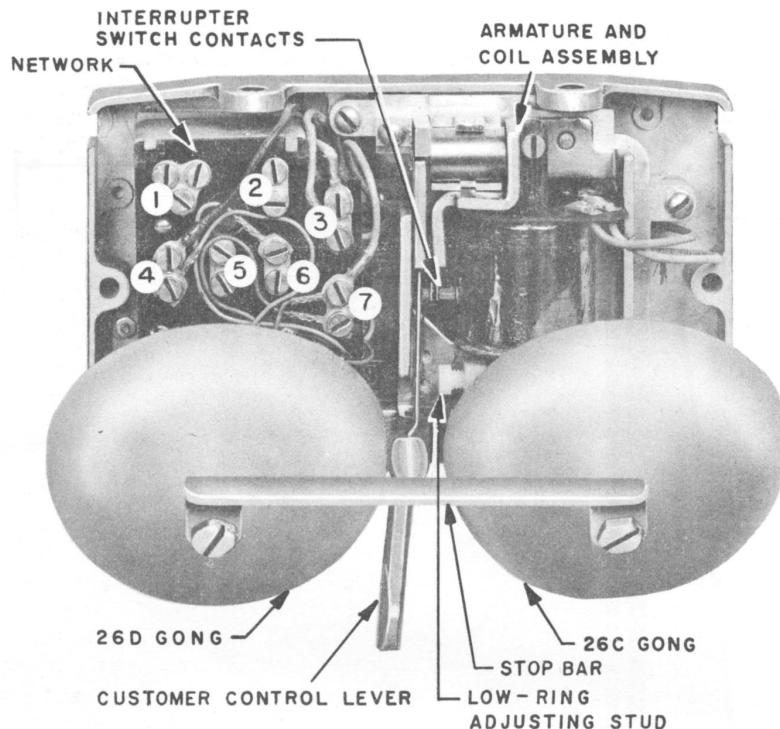

Fig. 2 - FLA Ringer
avoid changing the adjustment of the interrupter switch assembly (see Fig. 2). Keep the F1A ringer in shipping carton prior to installation and when removed from service. Handle F1A ringer by using the stop bar attached to the two gongs.
spring. The component parts, shown in Fig. 2, are:
4.07 Adjust the volume of the low ring by moving the adjusting stud (Fig. 2) right or left; use a small screwdriver in slotted end located beneath the right gong.